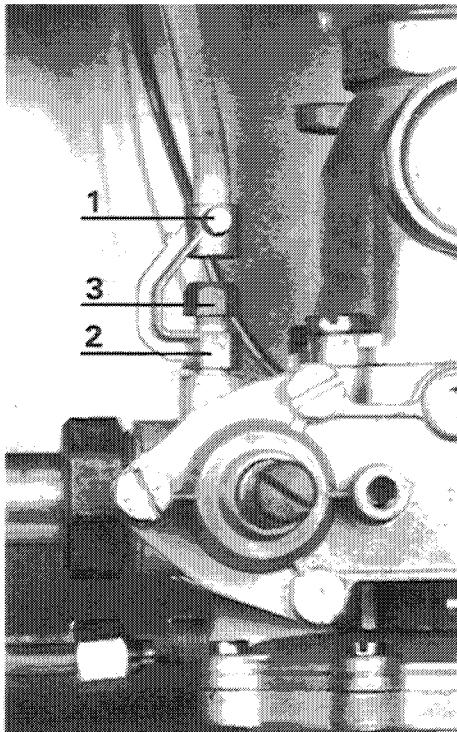

Fig. 19
- a) Slacken screw (1, fig. 19) retaining pilot tube and lift out tube.
- b) Unscrew pilot tube bracket (2, fig. 19) using 10 mm spanner.
- c) Remove pilot injector retaining nut (3, fig. 19) using 10 mm spanner.